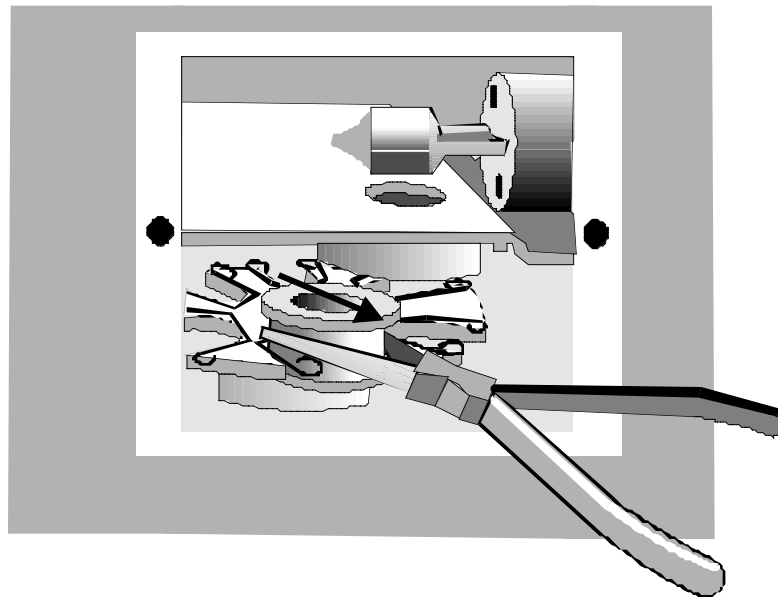

Figure 33. Removing a Filter
3. Firmly grasp the exterior filter housing with a pair of needle nose pliers (Figure 33).